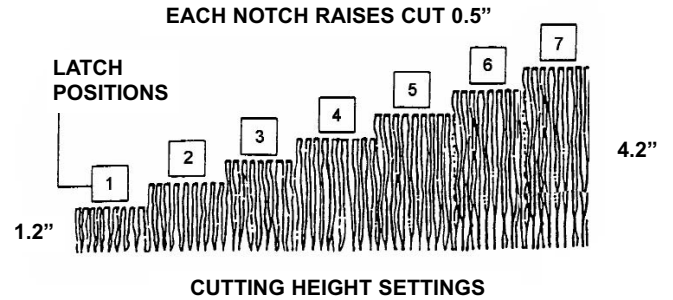

FIGURE 2.11
2. Set all wheels at the same cutting height. The highest cutting position is Notch 7. The lowest cutting position is Notch 1. See Figure 2.11.